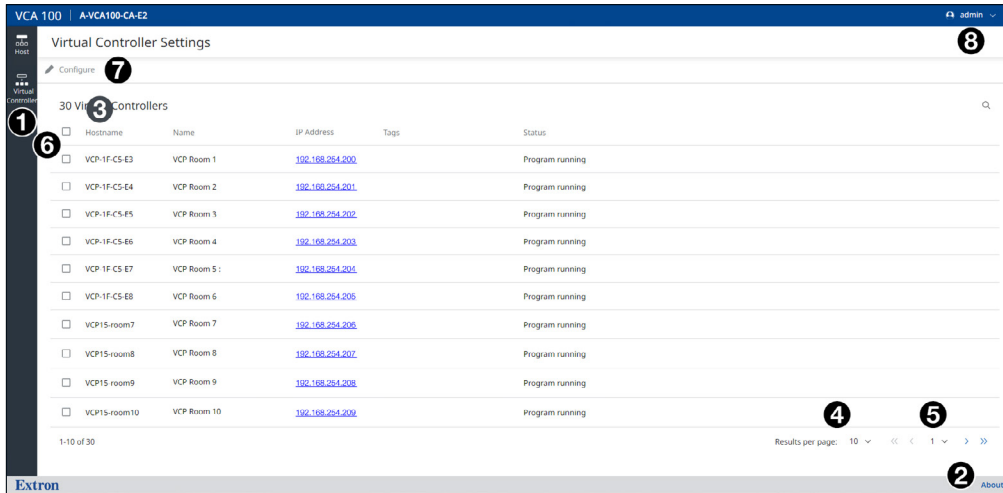

Figure 20. Virtual Controller Settings
If required, click the **Virtual Controllers** icon in the menu bar (see figure 20, ❶).
1. Select one or more devices by selecting the desired check boxes (see figure 20, 6, on page 24). You can select all devices by selecting the check box at the top of the column.
1. Select some or all VCPs (see figure 20, 6, on page 24).
1. Select the checkboxes for those devices on the home page (see figure 20, 6, on page 24).